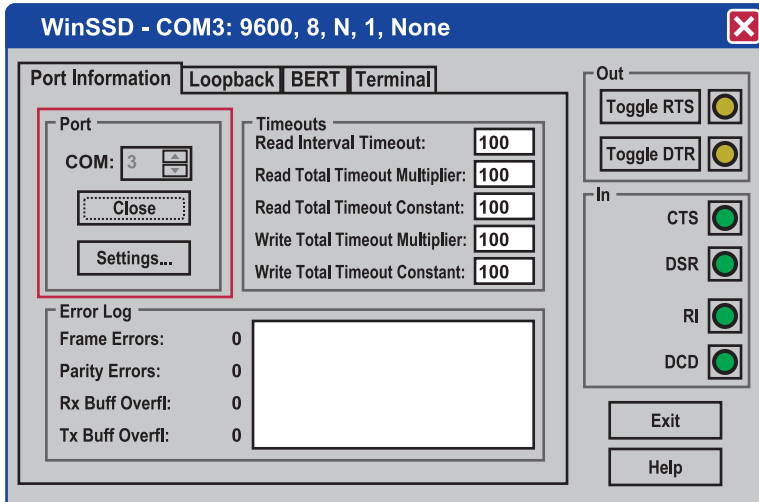

Figure A-1. Port Information tab.
- On the "Port Information" tab, select the COM port you want to test and click on the "Open" button (see Figure A-1).